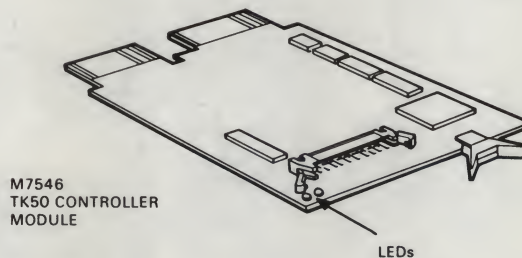

Figure 1-10 Location of M7546 LEDs
- Set the power switch to 1 (ON) and observe the light emitting diodes (LEDs). If the conditions shown in Table 1-2 are not met, the M7546 module is defective and must be replaced (Figure 1-10).